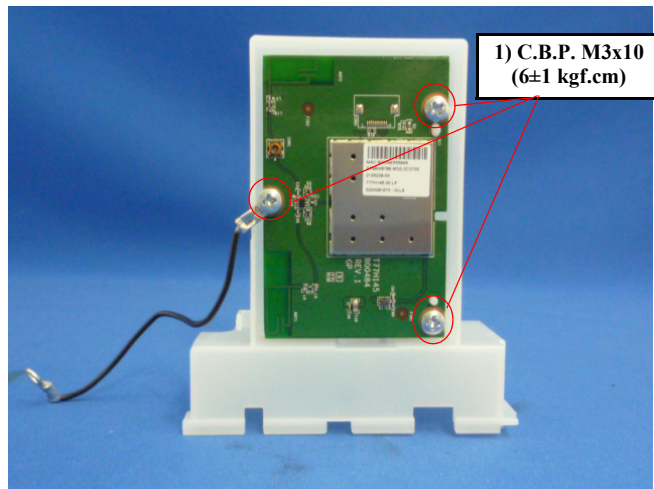

Figure 8-26. Screws that secure the Wireless LAN Board and Wireless LAN Board Holder.
3. Remove the three screws (C.B.P M3×10) secure the Wireless LAN Board and Holder. (See Figure 8-26)